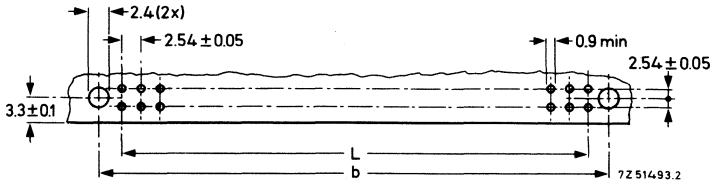

Fig. 8. For dimensions b and L, see Table 2.
1. Use the piercing diagram shown in Fig. 8.